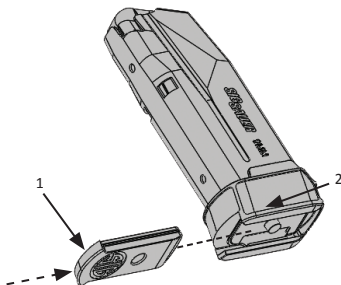

Figure 1
5. Slide the floorplate retainer (Figure 1, Item 1) into floorplate until stud of insert snaps into place, securing the floorplate to the magazine tube.